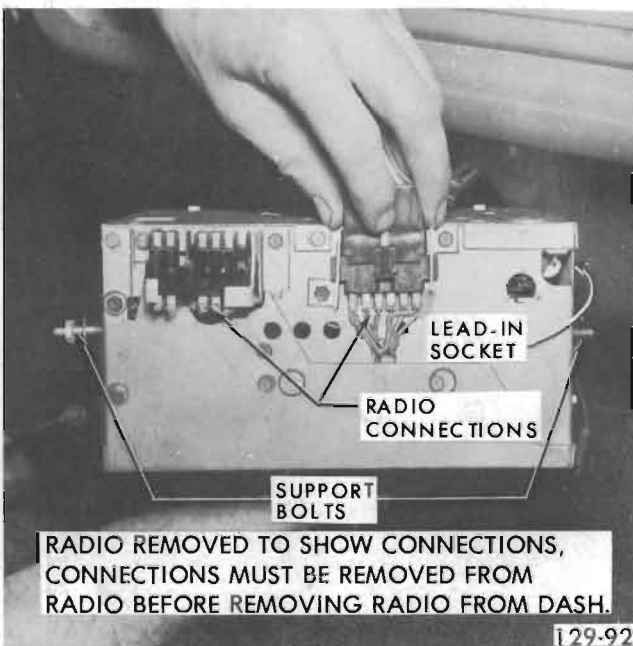

Figure 129-7
5. Separate the (2) multiple connectors and antenna lead-in before the radio is removed. See Figure 129-7.
6. Unscrew the nuts on the radio support bolts and remove the radio from the opening, lowering it from behind the instrument panel. See Figure 129-7.